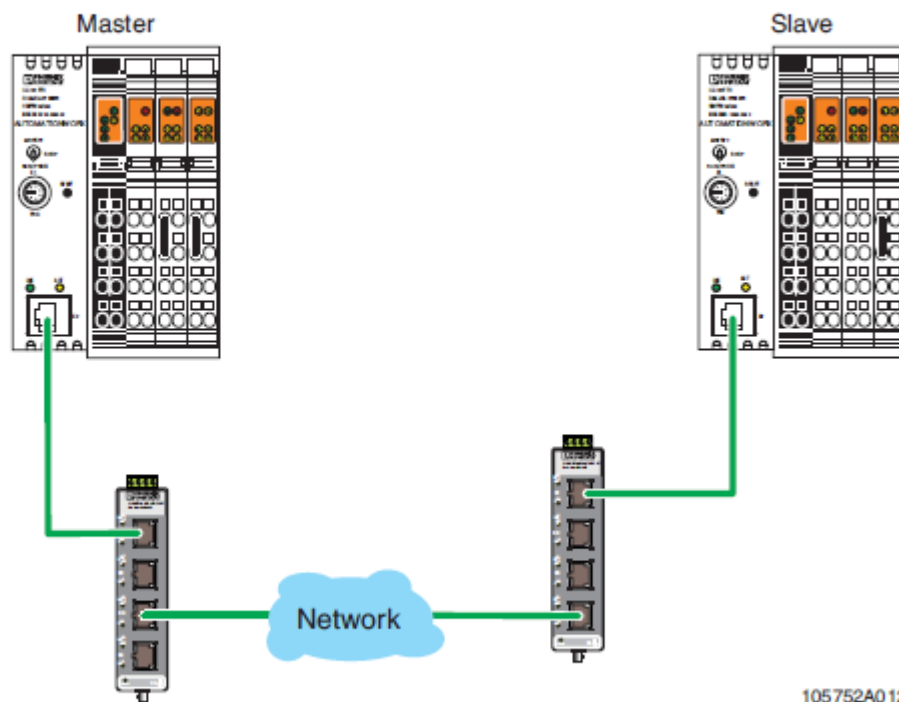

Figure 2-19 Inline controllers in the network
- Connect each Inline controller to the network using an Ethernet cable (Figure 2-19).